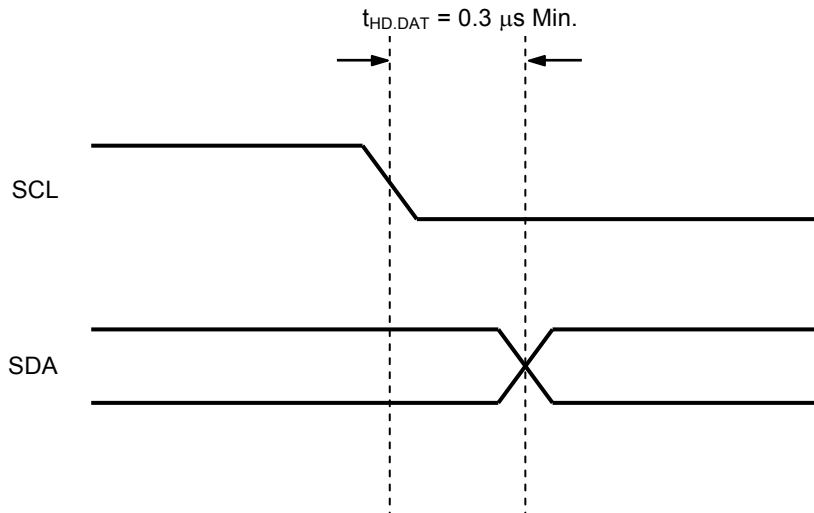

**Figure 27 Initialization Time of S-34C02A**
**Figure 27** shows the initialization time of the S-34C02A.